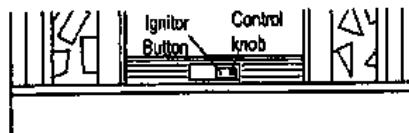

Figure 11 -Control Knob and Ignitor Button Location
4. Wait five (5) minutes to clear out any gas. Then smell for gas, including near the floor. If you smell gas, STOP! Follow "B" in the *safety information*, page 2, column 1. If you don't smell gas, go to the next step.
5. Turn control knob counterclockwise ↻ to the PILOT position. Press in control knob for five (5) seconds (see Figure 11).